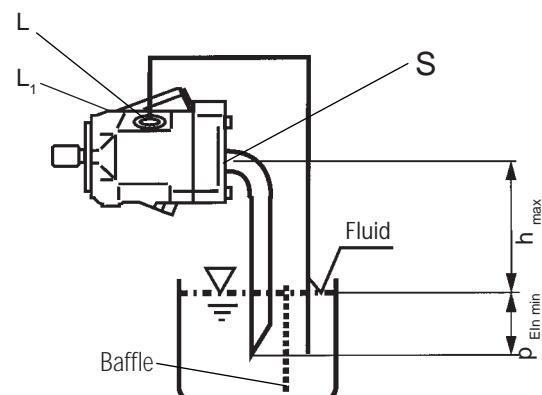

Fig. 4
- If the minimum fluid level is below the top of the pump, pipe ports "L", "L₁" and possibly "S" as Fig. 4. The conditions correspond to item 1.2.1.
- When mounting above the reservoir, see Fig. 4.